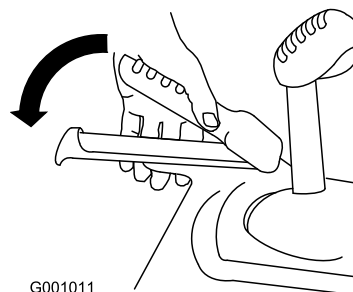

Figure 31
1. To engage the traction drive, squeeze the left hand (traction) lever to the handgrip (Figure 31).